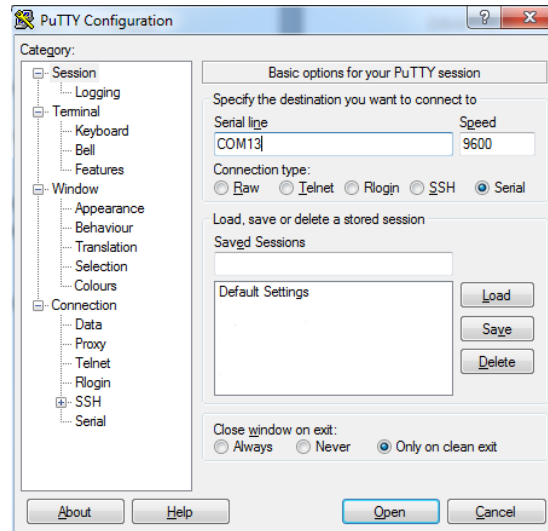

Figure 6: Opening the USB UART device in PuTTY
11. Open your serial terminal software and connect to the COM port that belongs to the development kit. Here are directions for doing this with PuTTY (depicted in Figure 6).